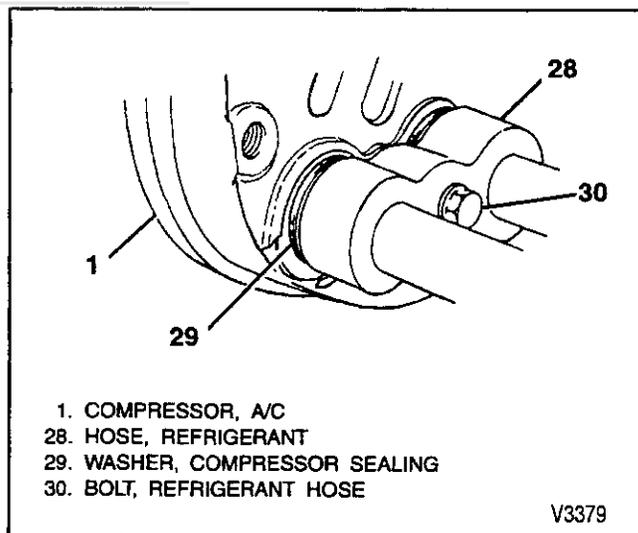

Figure 25—Sealing Washer Installation (2 of 2)
2. Install hose block to the compressor making sure the sealing washers are seated within the compressor machined surfaces (figure 25).